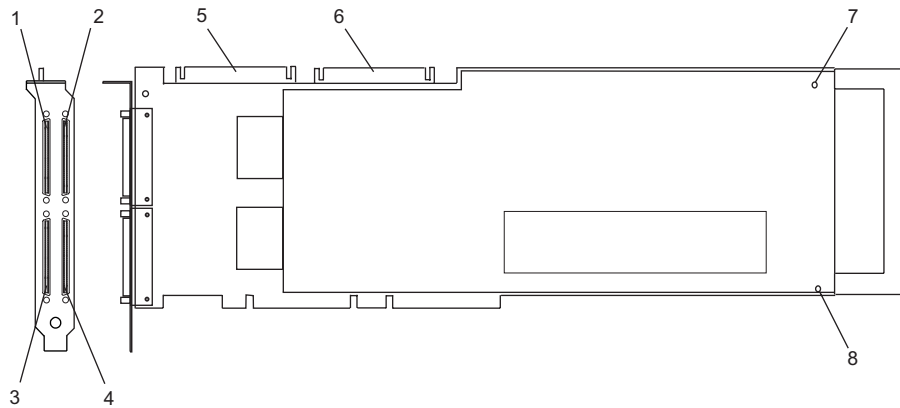

Figure 1. PCI 4-Channel Ultra3 SCSI RAID Adapter
1. Remove the two screws that hold the handle to the adapter. Refer to Figure 1 on page 1.